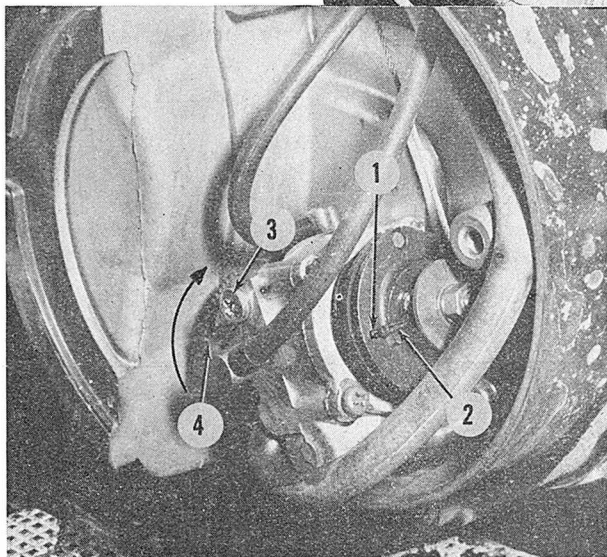

Fig. Y11-4—Adjust pump cable so that marks align as slack is just taken up in throttle cable.
used. Adjust pump control cable so that mark on pulley (1—Fig. Y11-4) is lined up with pin (2) when engine is at idle (1300-1400 RPM).
Should pump be allowed to run dry or if it has been removed it will be necessary to bleed the system. Remove bleeder bolt (3—Fig. Y11-4) and turn starter plate (4) in direction of arrow until pure oil (no air bubbles) is coming from bleeder hole. Holding throttle wide open will speed bleeding operation. Replace bleeder bolt and check for leaks with engine running.